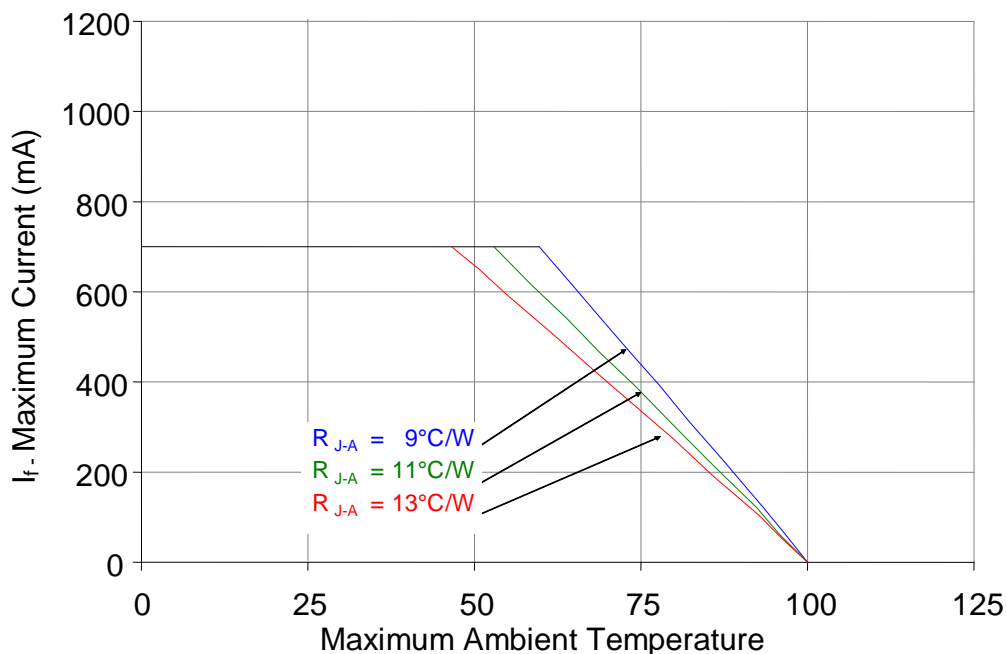

Figure 10: Maximum forward current vs. ambient temperature based on $T_{j(\text{MAX})} = 125^\circ\text{C}$.
- Maximum DC forward current is determined by the overall thermal resistance and ambient temperature. Follow the curves in Figure 10 for current derating.
Notes for Figure 10: